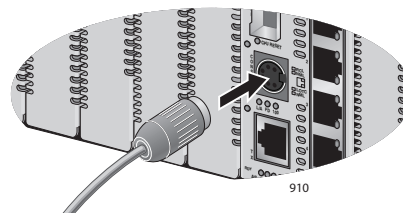

Figure 45. Connecting a Management Cable to the RS-232 Console Port
- b. Connect the 8-pin Mini-DIN end of the management cable to the RS-232 console port on the front of the AT-CM70S line card, as shown in Figure 45 on page 67.